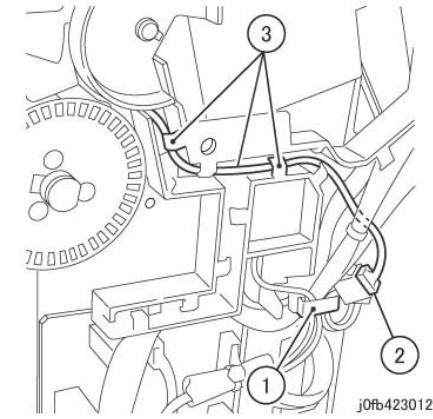

Figure 5 Set Clamp
8. Disconnect the Set Clamp Clutch and release the harness from the Harness Guide. (Figure 5)